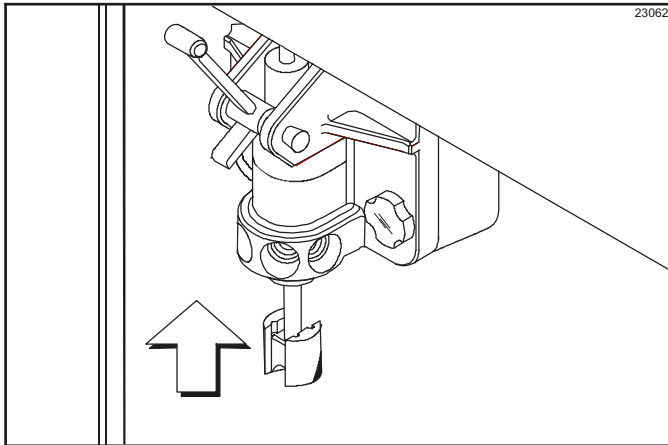

Figure 6-18
17. Insert the spinner blade shaft from the bottom, into the center of the driven spinner, and up through the draw valve cavity until the shaft appears at the top of the draw valve. The spinner blade must be aligned and engaged with the driven spinner at the bottom. This allows the spinner shaft to rise high enough to engage the spinner coupling at the top. (See Figure 6-18.)